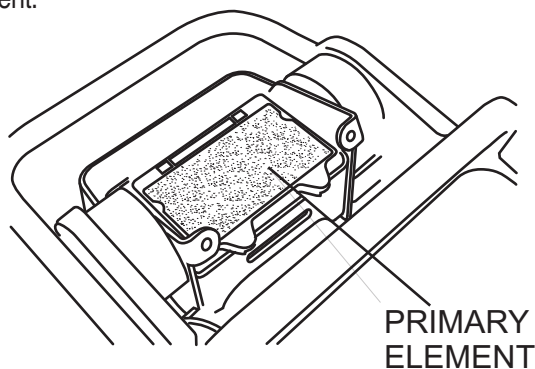

Figure 13. Air Cleaner Primary Element
- Remove the air cleaner cover. Loosen and remove the 2 screws that hold the cover to the air cleaner assembly. If the primary element (Figure 13) is dirty, wash it with gasoline or kerosene. Then dip it in engine oil (SAE 10W-30) and wring the element so that 25 to 30 cc of engine oil remains on the element.